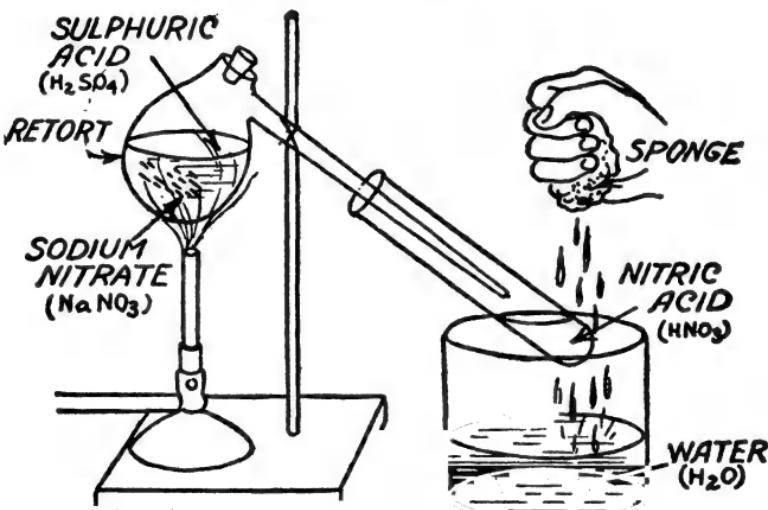

FIG. 30. APPARATUS FOR MAKING NITRIC ACID (HNO_3)
How to Make Nitric Acid.—*The Apparatus.*—To make nitric acid (HNO_3) get (1) a 2-ounce glass *retort* with a *stopper* in it, (2) a *test tube* and fix the *retort* to it, and (3) a *stand*, as shown in Fig. 30.